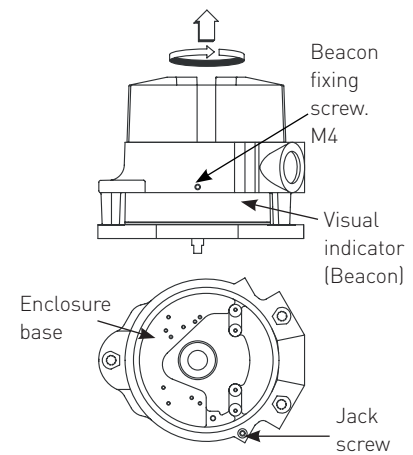
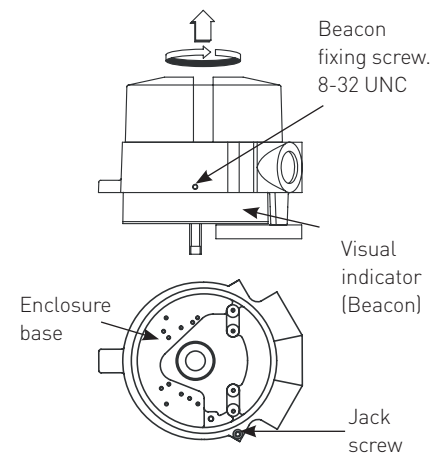

Figure 1 - Standard enclosure
Figure 2 - Alternative enclosure
- 2.4 Unscrew the cover (Fig. 1) and keep in a safe place. Ensure that the Jack screw (M4 socket head cap screw) remains in the housing (Fig. 2).
Loosen the beacon fixing screw, see Fig. 1, rotate beacon window (outer beacon) to indicate appropriate open or closed text as corresponding to actuator position.